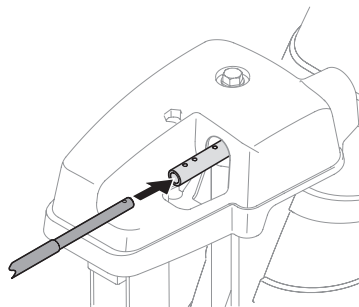

Figure 2-43
2. Insert round end of chute control rod into chute control head. Push rod as far into chute control head as possible, keeping holes in rod pointing upward. See Figure 2-43.
6. Push chute control rod toward the control panel until hole in rod lines up with middle hole in chute control input and insert cotter pin (a) removed in Step 1. See Figure 2-43.